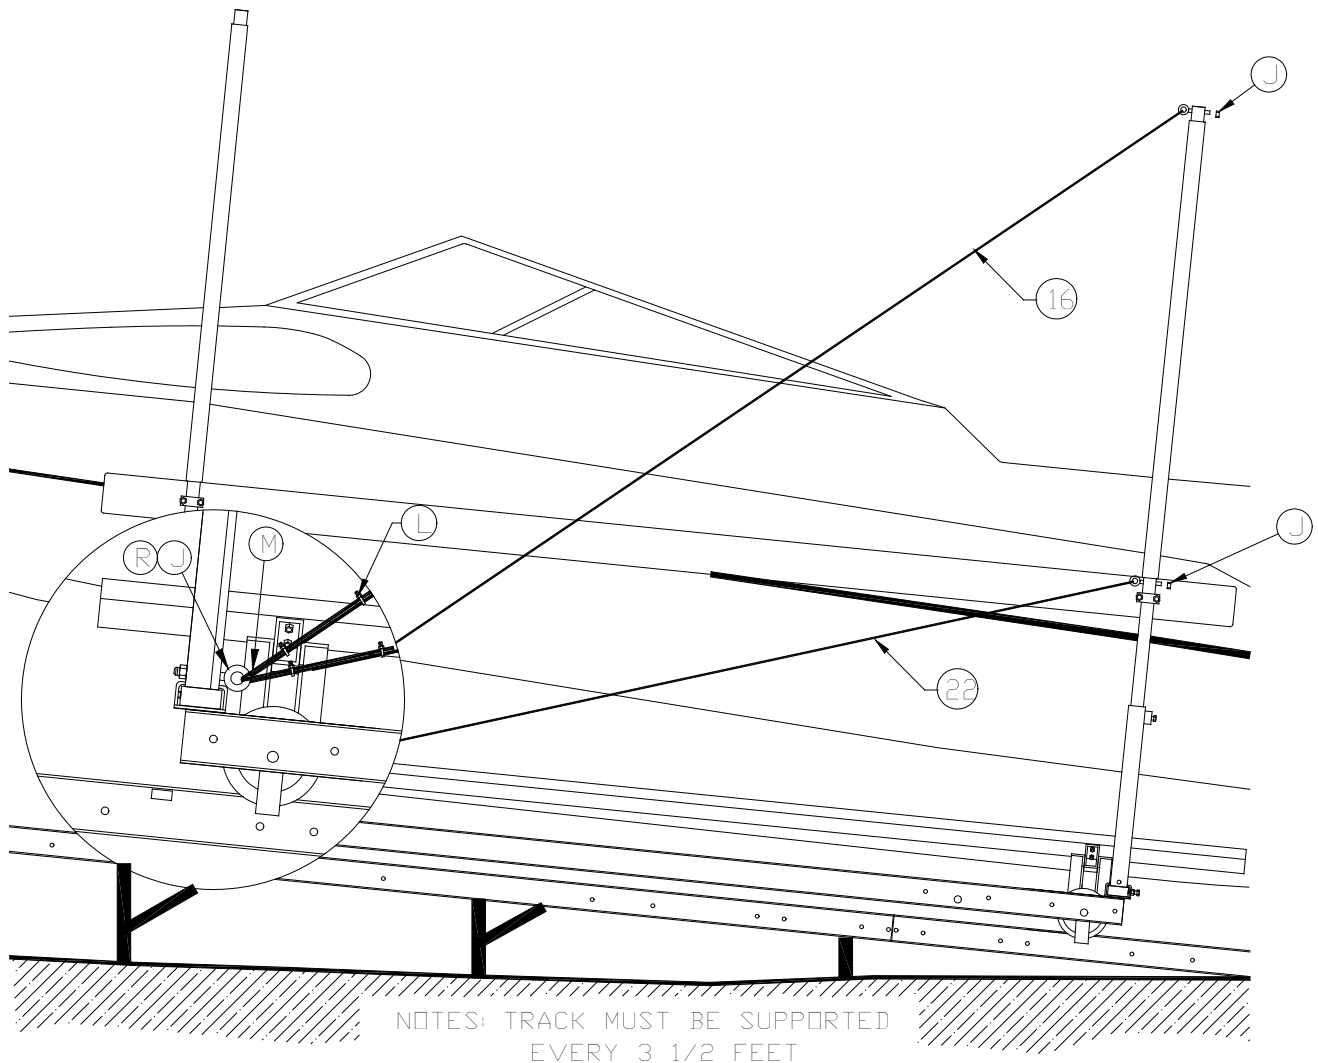

Figure 3-7.
2. Refer to **Figure 3-7**. The track must be rigidly supported at all the track splices and **every 3 1/2 feet** by the ground or by Reimann & Georger Corp. track supports as listed in **Chapter 2 - Optional Equipment** or other means for full length of track. Refer to separate installation instructions provided with these kits.
1. Refer to **Figure 3-7**. When operating the railway, tie the boat to the guide posts at the stern end of carriage. For steep uphill slopes, you must reinforce the stern and bow end guide posts using the cable assembly as shown.